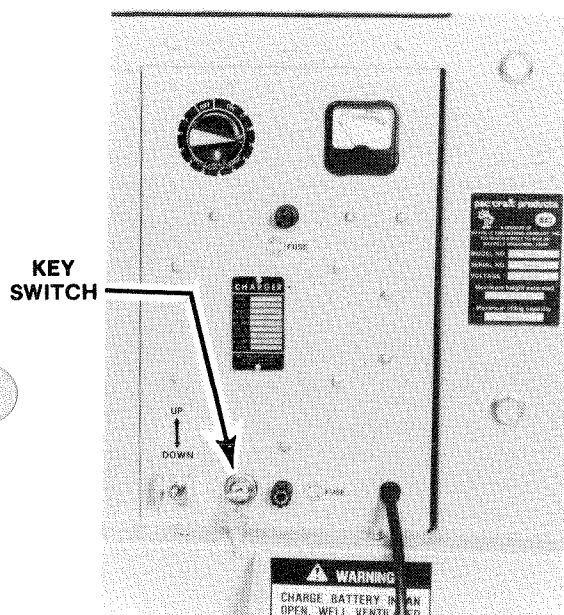

Figure 5. Key Switch Location
2. To operate the Handy-Herman you must first turn the key to the ON position. The key is located at the lower control and charger panel. (Fig. 5) You must also have battery switch in ON position for D.C. units. This is located in the opposite side panel.